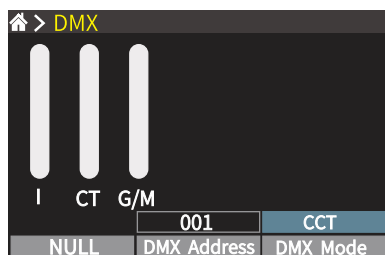

Figure 21: DMX Mode
- 1) By configuring settings directly on the DMX interface as shown in Figure 21.